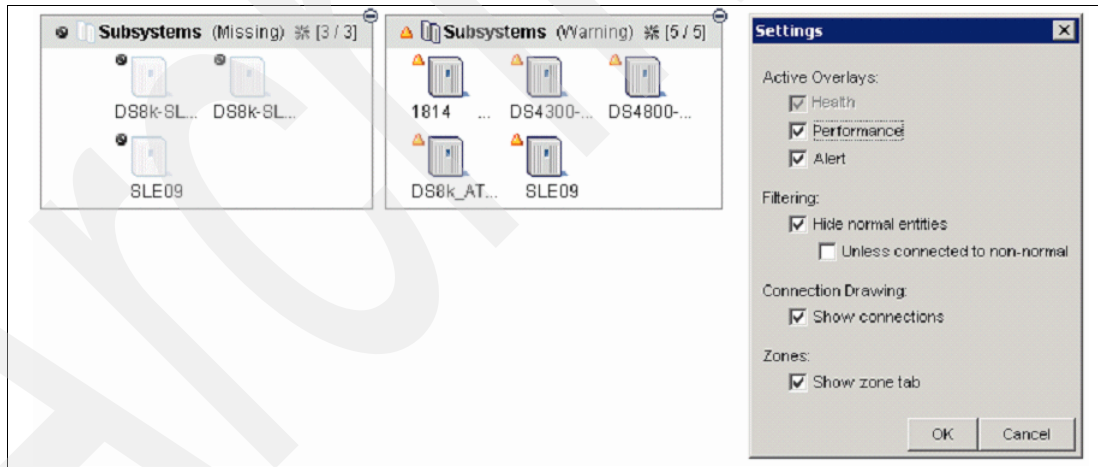

Figure 12-19 Configure the TPC topology view to hide normal entities for better overview of devices requiring further attention
- Under Filtering, check the box **Hide normal entities**, as shown in Figure 12-19.